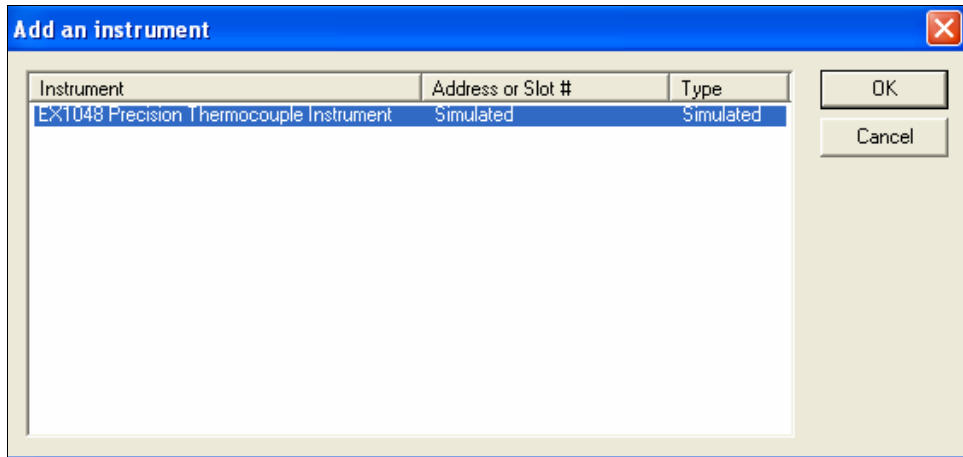

FIGURE 3-4: ADD AN INSTRUMENT DIALOGUE BOX
- 4) The EX1048 will be displayed. Click on the **OK** button to continue (see Figure 3-4).